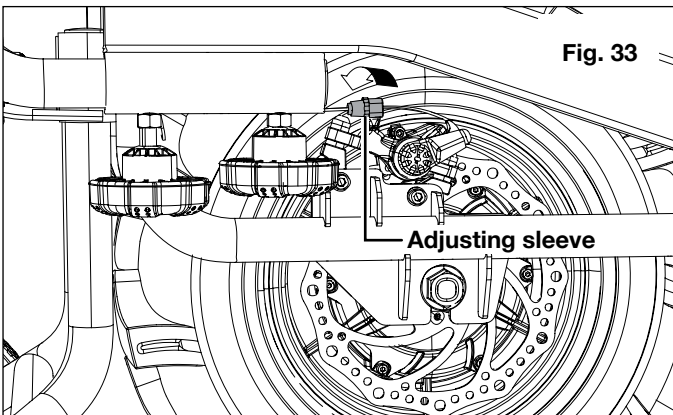

Fig. 33
6. Loosen the adjusting sleeve located near the terrain wheel by turning it counterclockwise (Fig. 33).